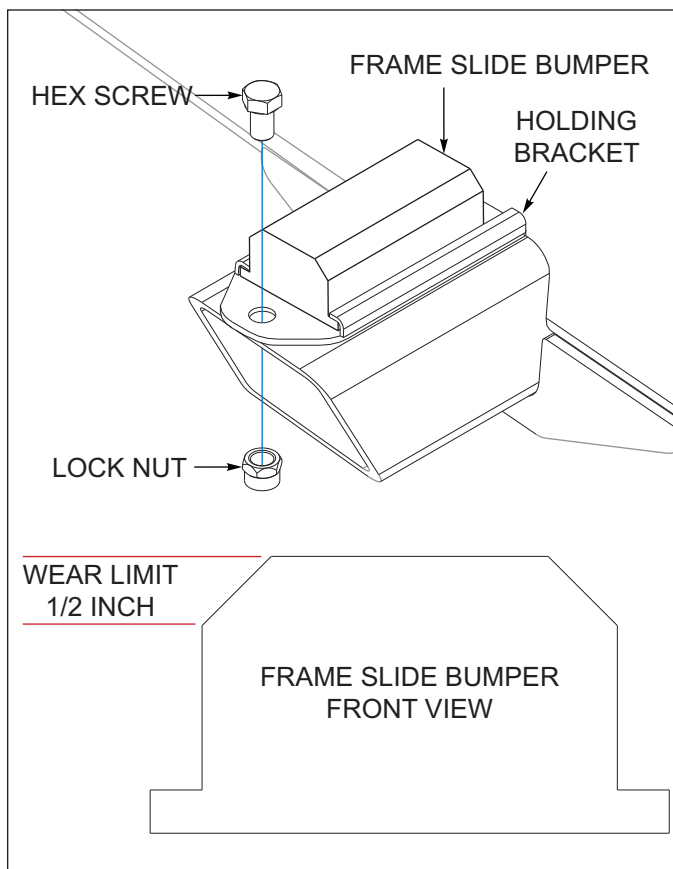

Figure 4-6: Slide Bumper Wear Limit
2. Remove the lock nut and remove the hex screw. **See Figure 4-6.**
3. Inspect Frame Slide Bumper for bends, breaks, burrs, chips, cracks, dents, pits, wear, distortion, signs of fatigued or brittle and visual defects. Verify the bumper is not worn more than an 1/2 inch. Use the 45 degree chamfers on each side of the bumper as reference, **See Figure 4-6.** Replace if defective, **See Repair Parts on Page 4-3.**
2. Push frame slide bumper into the holding bracket, *See Figure 4-6.*